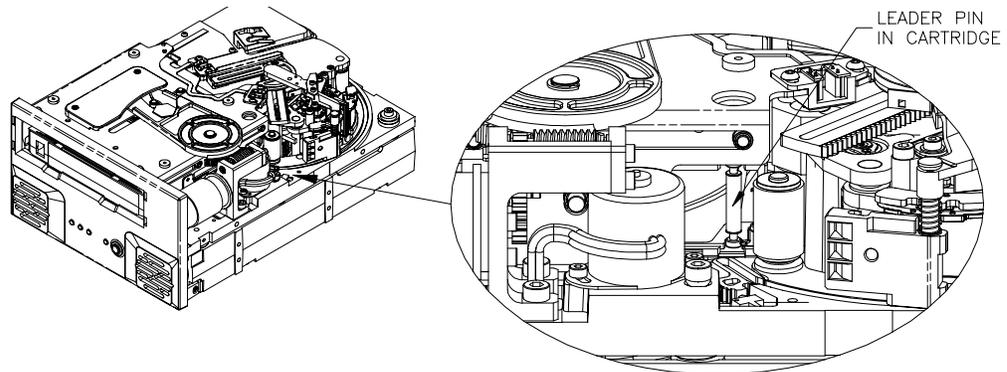

Figure 11. Diagram of Viper 200 showing leader pin inside LTO cartridge (tape *not* threaded on take-up hub)
- Case 1: The cartridge is loaded and the leader pin is still in the cartridge (see Figure 11). Follow the procedure on page 32.
1. Verify that the leader pin is still inside the cartridge as shown in Figure 11 on the previous page. If the leader pin has been pulled out of the cartridge and is still in the tape path, follow the steps in ***Case 2: Cartridge Is loaded and tape is partially threaded*** on the following page.